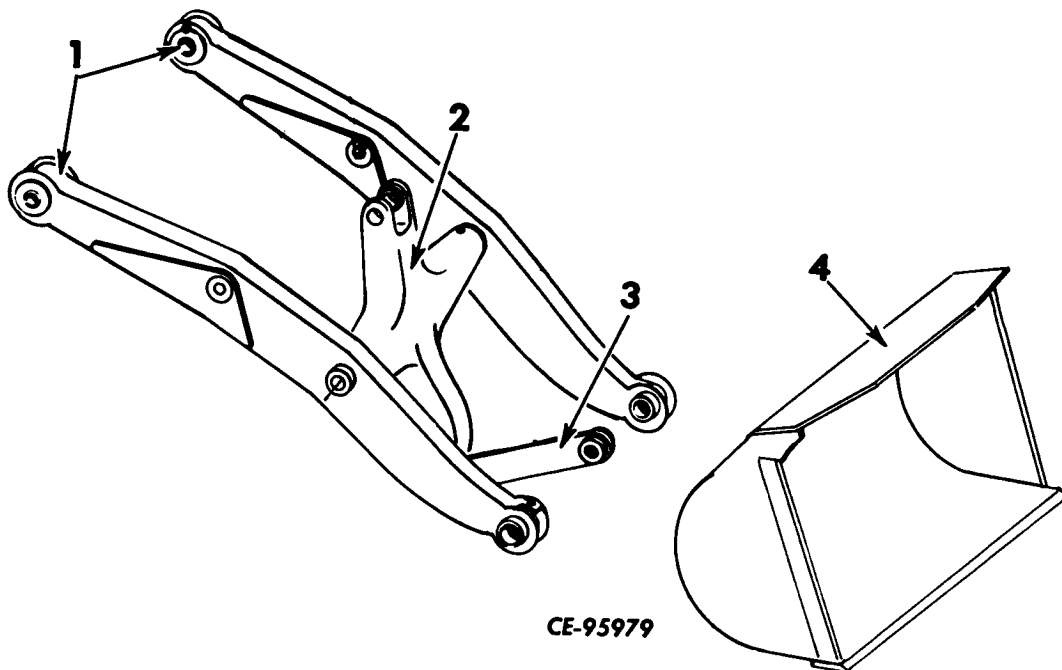

Figure 1-14
The boom (1, Fig. 1-14) is of welded steel construction. The bellcrank (2), joining the boom arms at its pivot point, is a one piece casting. The heavy bucket link transfers the stroke of the bucket cylinder rod, multiplied by the bellcrank, to the bucket. The bucket is heavily ribbed for added strength. Locking pins retain the bucket to the boom and dump link. The bucket is equipped with a replaceable, weld on, cutting edge.